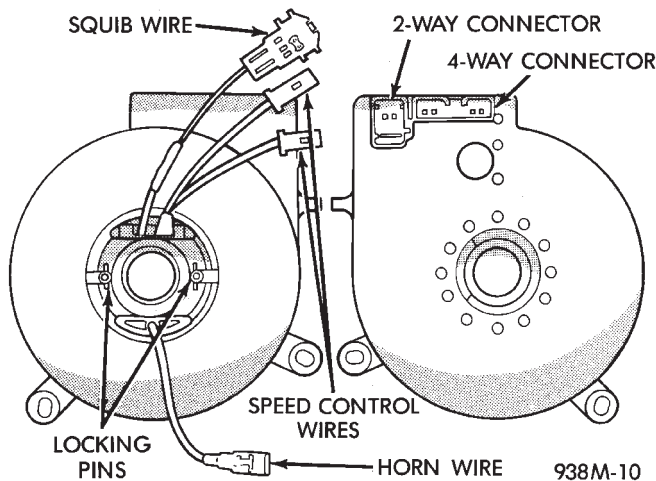

Fig. 15 Clockspring
(3) Wait two minutes for the reserve capacitor to discharge before removing undeployed module.
(4) Remove speed control switch mounting screws, switches and disconnect the wire connectors or remove covers.
(5) Remove the air bag module attaching bolts from the back of steering wheel.
(6) Lift module and disconnect the air bag and horn wire connectors.
(7) Remove the steering wheel, refer to Steering Wheel removal procedures.
(8) Remove the tilt wheel release lever, if equipped.
(9) Remove upper and lower steering column shrouds to gain access to clockspring wiring.
(10) Disconnect the 2-way and 4-way connectors between the clockspring and the instrument panel wiring harness at the base of the clockspring (Fig. 15).
(1) Confirm that:
(2) Connect the clockspring to the instrument panel harness, ensure wiring is properly routed. Then check that the connectors, locking tabs are properly engaged and the halo lamp wire is in position (Fig. 15).
(3) Install steering column shrouds. Be sure all wires are inside of shrouds.
• (4) Install the tilt wheel release lever, if equipped.
(5) Install steering wheel ensuring the flats on hub align with the clockspring. Pull the yellow horn lead through the smaller round hole. Pull the air bag and speed control leads through the larger slot. Ensure leads do not get pinched under the steering wheel.
(6) Route speed control wires under and behind the air bag module mounting tabs.
(7) Connect the yellow horn lead wire and the air bag lead wire to the air bag module.
(8) Install the air bag module, and tighten bolts to 12 to 14 N•m (105 to 125 in. lb.) torque.
(9) Connect the speed control wires to the switches and install switches. Tighten screws to 1.4 to 2.0 N•m (12 to 18 in. lb.) torque.
(10) Do not connect the battery negative cable. Refer to Air Bag System Check for proper procedure.
(1) Remove clockspring, refer to Clockspring Removal.
(2) After removal, depress the two plastic locking pins to disengage locking mechanism (Fig. 15).
(3) Keeping locking mechanism disengaged, rotate the clockspring rotor in the **CLOCKWISE DIRECTION** to the end of travel. Do not apply excessive torque.
(4) From the end of travel, rotate the rotor two full turns and a half in the counterclockwise direction. The horn wire should end up at the bottom and the squib wire at the top. If not, rotate the rotor counterclockwise until the wires are properly orientated, but